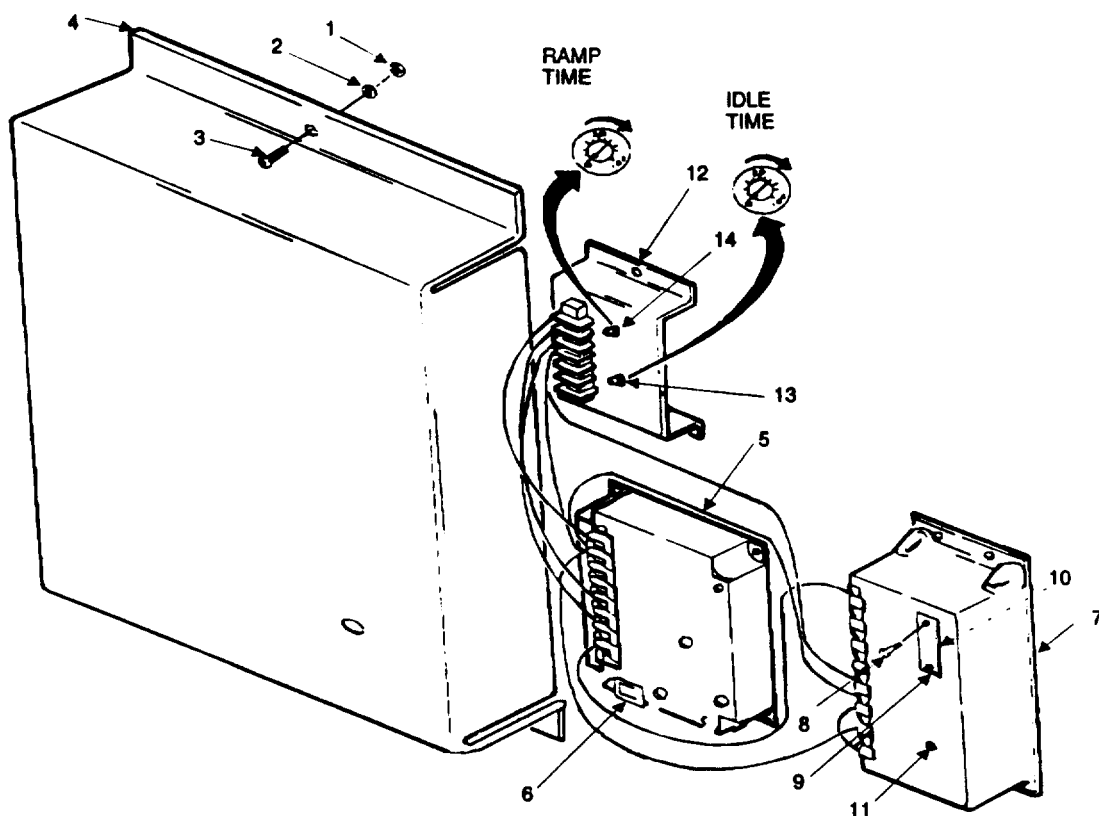

Figure 5-12. Electronic Governor System Adjustment
- (29) Install access cover (4) with three machine screws (3), three lockwashers (2), and three hexagon nuts (1).
**f. Adjustment.** (Refer to figure 5-12.)
**(1) Governor Adjustment.**
- (a) Remove three hexagon nuts (1), three lockwashers (2), three machine screws (3), and access cover (4) to gain access to the governor controller (5).
- (e) If you plan to adjust the overspeed switch, proceed to paragraph (2)(c) following; otherwise, shut down engine and install access cover (4) and secure with three machine screws (3), three lockwashers (2), and three hexagon nuts (1).